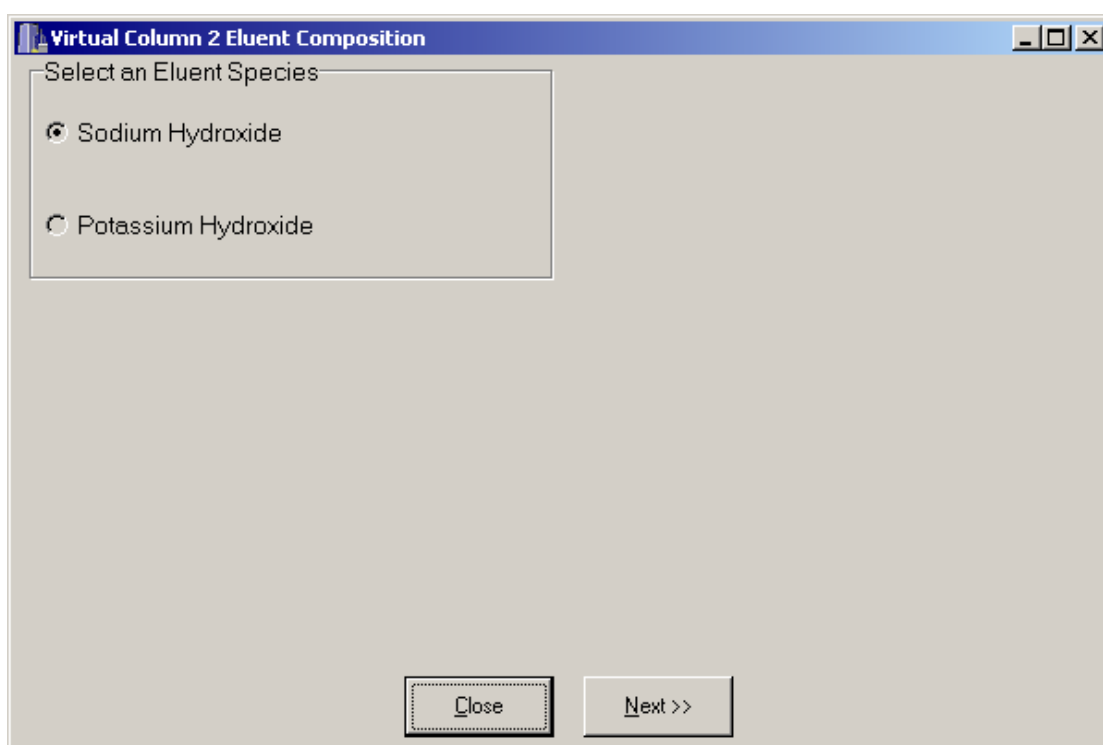

Figure 22. Virtual Column 2 Eluent Composition window for single species eluents.
- There is only one class of eluent species available for eluent composition calculations, thus the Virtual Column 2 eluent composition window contains only one group box (Figure 22).